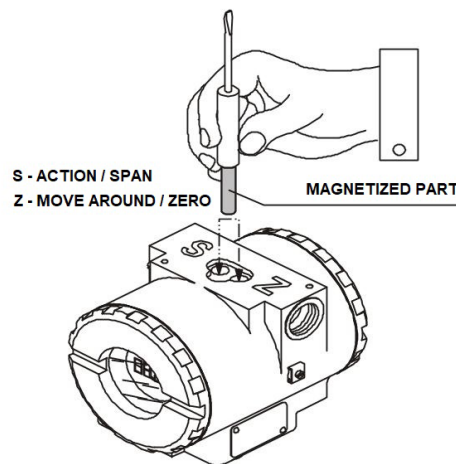

Figure 4.2 – Local Zero and Span Adjustment holes and Local Adjustment Switches
The transmitter has, under the identification plate, holes for two magnetic switches activated by the magnetic tool (See Figure 4.2).
- ✓ Insert the magnetic tool in the ZERO adjustment hole. (See Figure 4.2)